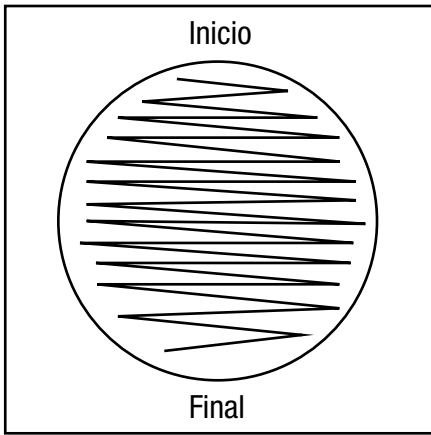

Figure 1: Streaking pattern on the 3M Petrifilm SALX Plate
- Open the 3M Petrifilm SALX Plate and streak onto the gel (figure E). Perform a single streak to obtain isolated colonies (Figure 1).